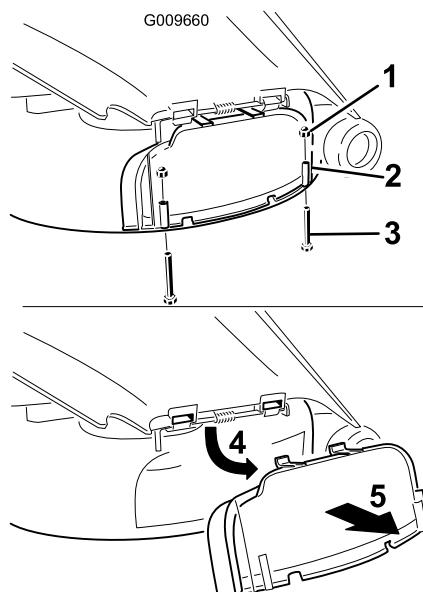

Figure 29
3. Remove the 2 bolts and nuts that secure the discharge cover to the mower (Figure 29).